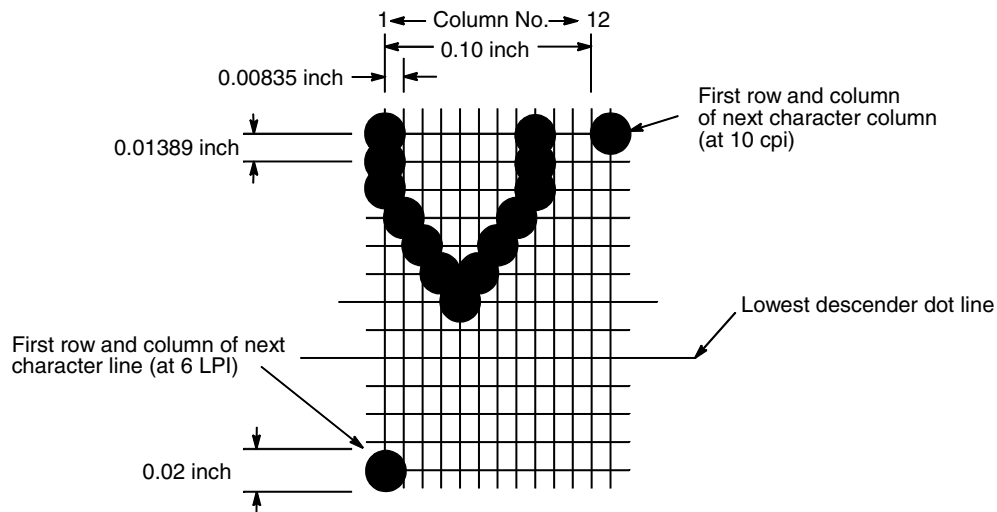
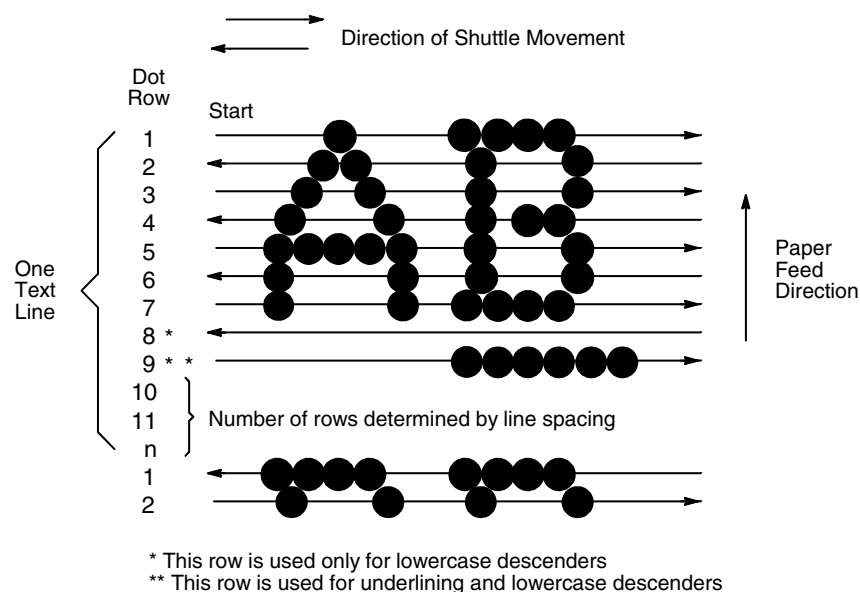

Figure 58. A Dot Matrix
Figure 59. Standard Character Formation
Every text character is stored in printer memory as a pattern of dots on a logical grid called the dot matrix. (Figure 58.) The ink dots that appear on the paper are made by a row of hammer springs mounted on a shuttle that sweeps rapidly back and forth. Logic circuits on the controller board divide every line of incoming print data into horizontal dot rows. The hammers put dots at the required positions for the entire line by driving an inked ribbon onto the paper.
The dot matrix patterns of text characters vary according to the font the user selects. For example, in the data processing (DP) font at a line spacing of six lines per inch (lpi), a dot matrix contains 12 dot rows from the top of one character line to the top of the next. (Figure 58 and Figure 59.) At eight lpi there are nine dot rows per character line, at nine lpi there are eight dot rows per character line, and so on.